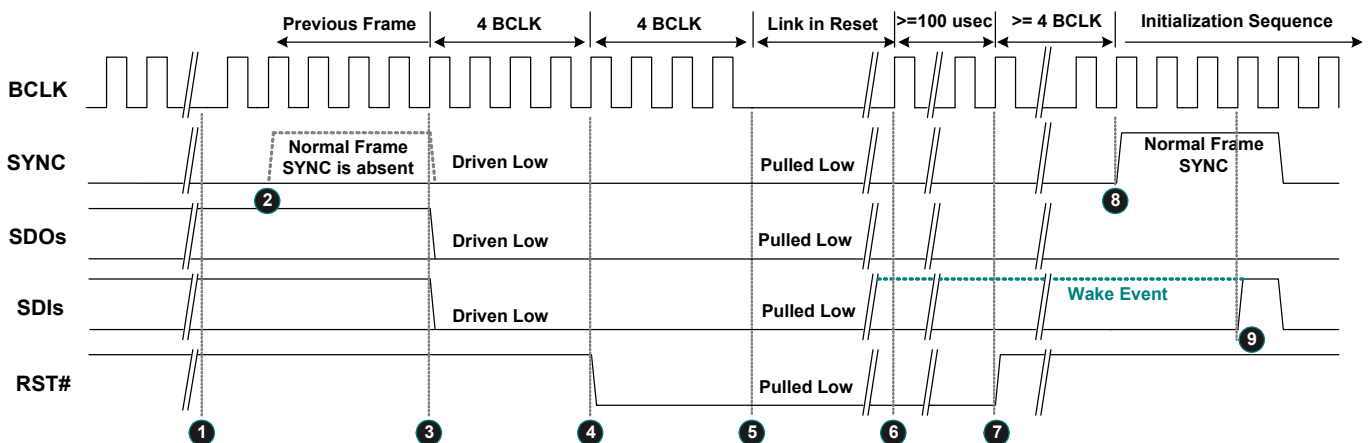

Figure 14. Link Reset Timing
3. Software initiates power management sequences. Figure 14, page 19, shows the 'Link Reset' timing including the 'Enter' sequence (①~⑤) and 'Exit' sequence (⑥~⑨)